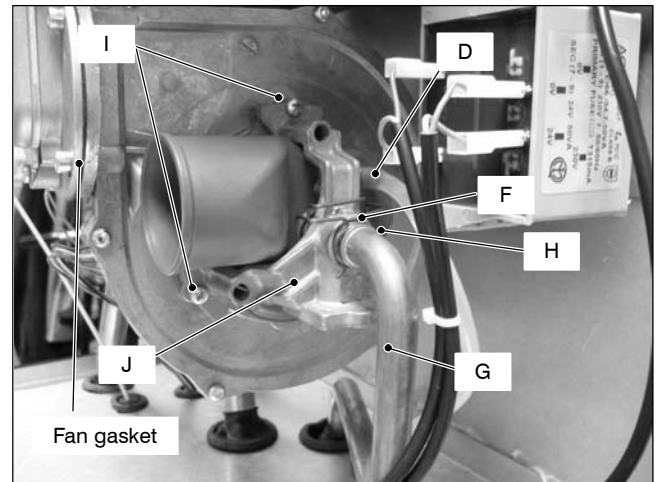

Fig. 17.3
- 4 Disconnect the rubber pipe *D* (Fig. 17.3).
- 6 Remove the fixing fork *F* and remove the gas pipe *G* (Fig. 17.3).
**Before reassembling ensure the fan gasket (Fig. 17.3) is correctly mounted.**